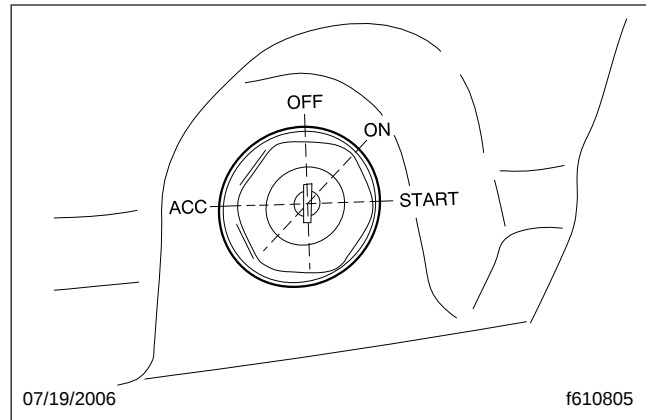

Fig. 9.1, Ignition Switch
4. Turn the ignition switch to the ON position. See Fig. 9.1. Electronic gauges on the instrumentation control unit (ICU) will complete a full sweep of their dials, the warning and indicator lamps will illuminate, and the buzzer will sound for three seconds.